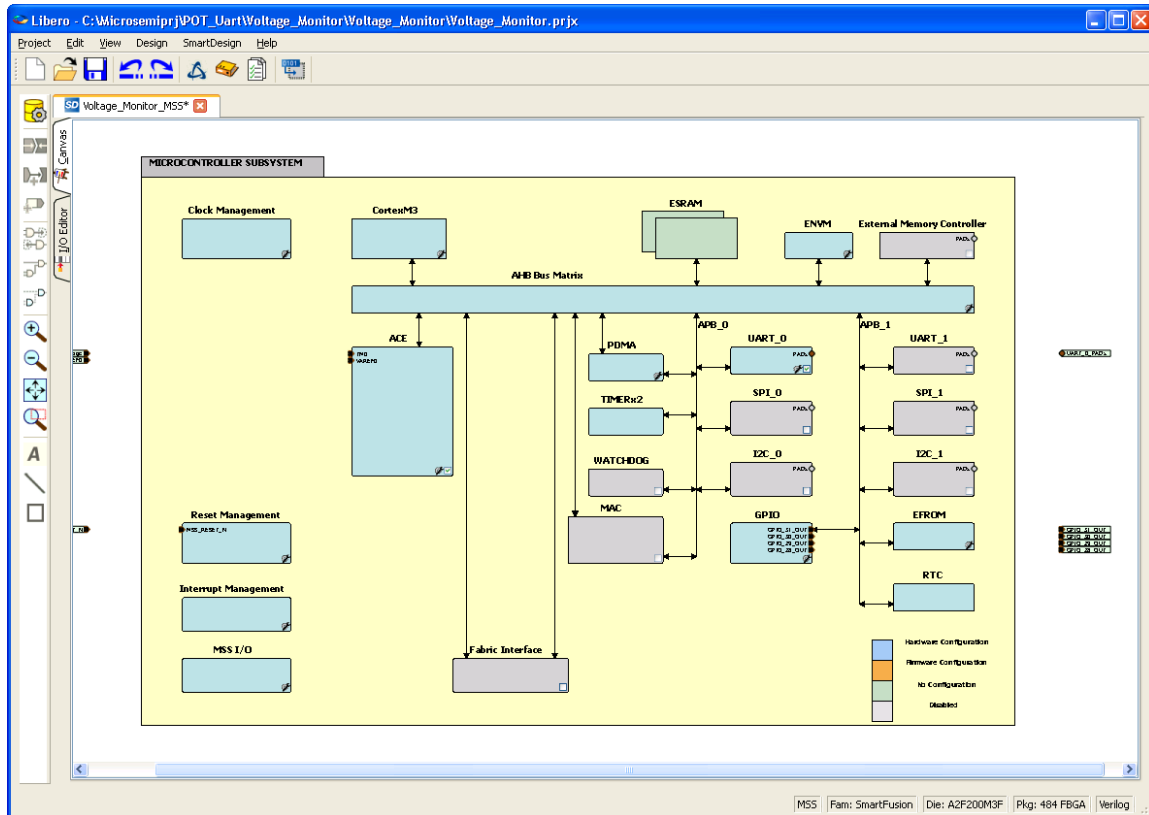

Figure 16 The MSS Canvas
1. The MSS canvas is displayed, as shown in Figure 16.